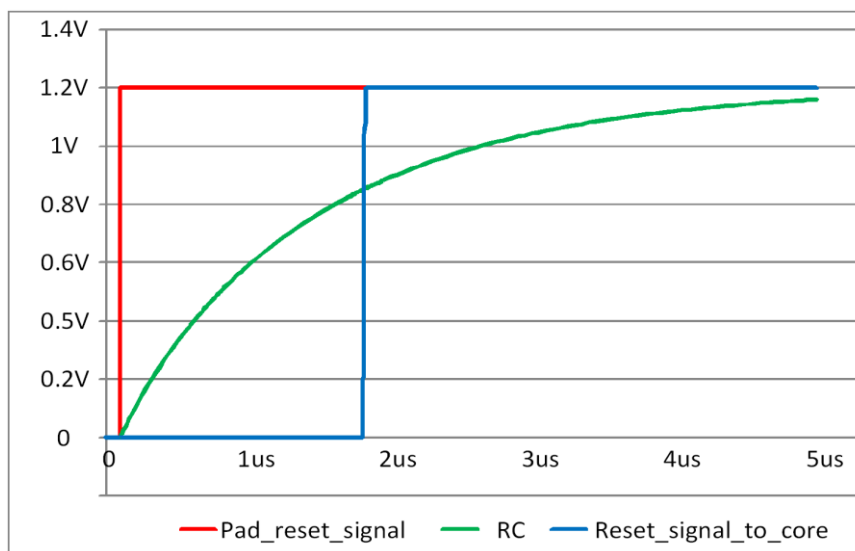

Figure 13: RST Pad Latency
The DA14585 comprises an RST pad which is active high. It contains an RC filter for spikes suppression with 400 k $\Omega$  and 2.8 pF for the resistor and the capacitor respectively. It also contains a 25 k $\Omega$  pull-down resistor. This pad should be connected to ground if not needed by the application. The response is illustrated in the Figure 13 which displays the voltage (V) on the vertical axis and the time ( $\mu$ s) on the horizontal axis: